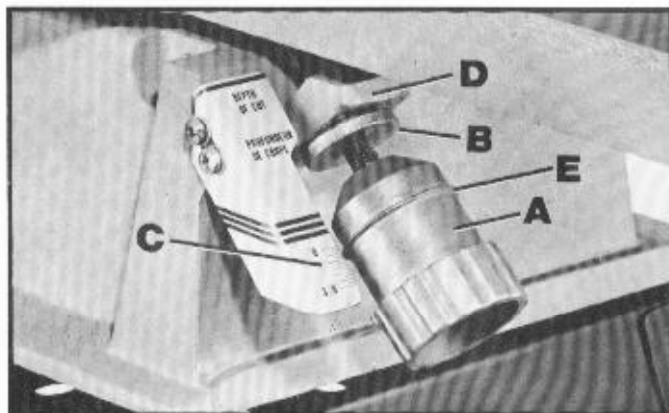

Fig. 25
To adjust the depth of cut, loosen lock knob (B) Fig. 25, turn the adjusting knob (A), counter-clockwise to lower the infeed table or clockwise to raise the infeed table. The ring (E), indicates the depth-of-cut on scale (C).
To prevent any accidental movement of the infeed table and the depth-of-cut adjustment, the adjustment knob (A) Fig. 25, should always be locked in place by turning the locking knob (B), clockwise until it touches the casting (D).